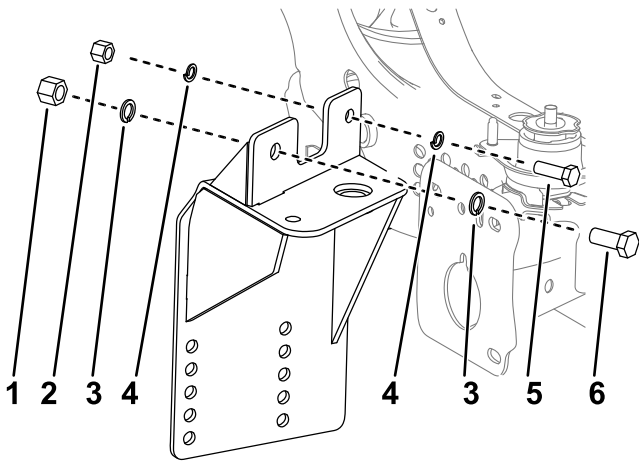

Figure 2
6. Loosely secure the front of the sideplates to the vehicle frame as shown in Figure 2.